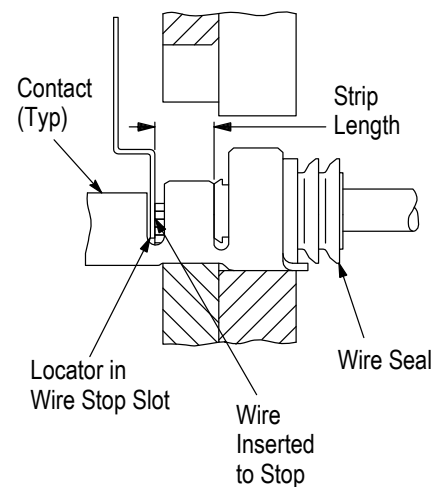

Figure 3
#### 4. CONTACT SUPPORT ADJUSTMENT (Figure 3)
Refer to the table in Figure 1 and select wire of the specified size and insulation diameter. Strip the wire to the length indicated in Figure 1, taking care not to nick or cut wire strands. Select an applicable contact and identify the appropriate crimp section according to the wire size markings on the tool. Refer to Figure 3 and proceed as follows:
3. Position the contact so that the mating end of the contact is on the locator side of the tool, and so that the open “U” of the wire and insulation barrels must face the top of the tool. Place the contact up into the nest so that the movable locator drops into the slot in the contact. Refer to Figure 3. Butt the front end of the wire barrel against the movable locator.
5. Insert stripped wire (with the wire seal) into contact insulation and wire barrels until it is butted against the wire stop, as shown in Figure 3.
*The crimped contact may stick in the crimping area, but the contact can be easily removed by pushing downward on the top of the locator (see Figure 3).*